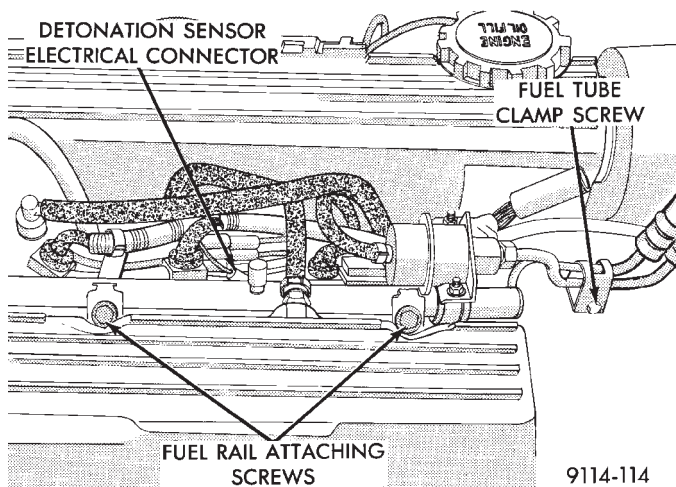
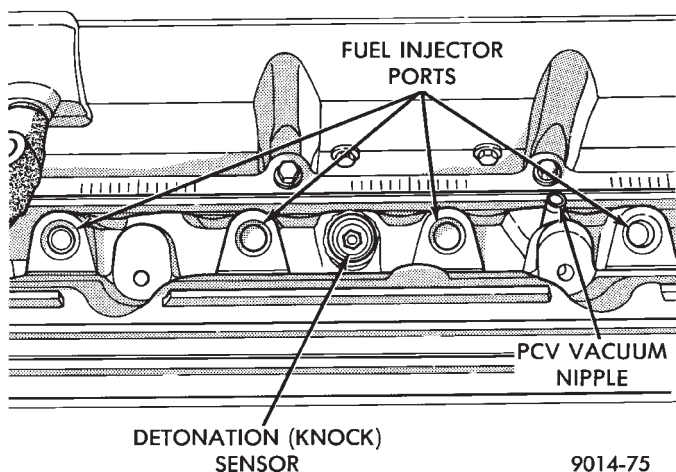

Fig. 7 Fuel Rail Attaching Screws
Fig. 8 Detonation (Knock Sensor) and PCV Vacuum Nipple
- (14) Disconnect Detonation (Knock) Sensor Electrical Connector (Fig. 7).
- (15) Remove fuel rail to intake manifold attaching screws (Fig. 7).
- (16) Remove fuel rail and injector assembly by pulling rail so that the injectors come straight out of their ports.
- (17) Be careful not to damage the rubber injector O-rings upon removal from the ports.
- (18) Remove fuel rail assembly from vehicle.
(19) Cover injector ports with suitable covering while injectors are being serviced (Fig. 8).
(20) Do not remove fuel injectors until fuel rail assembly has been completely removed from vehicle.